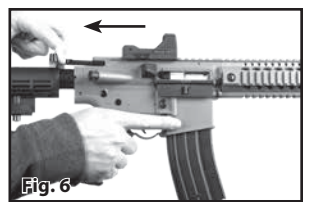

Fig. 6
8. Pull the charging handle all the way to the rear and return forward (Fig. 6).